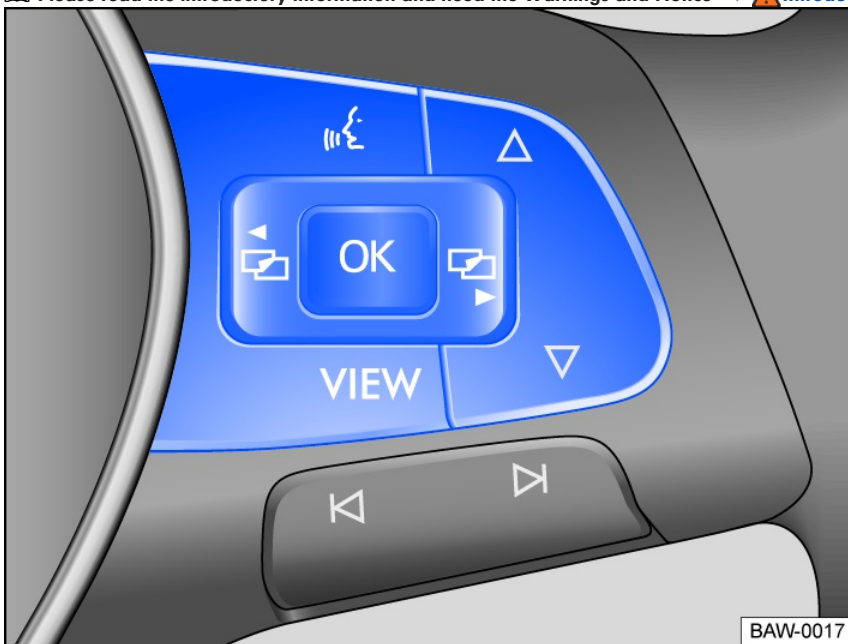

Fig. 17 Right side of the multifunction steering wheel: buttons for operating the menus and information displays in the instrument cluster
Menus cannot be accessed when a priority 1 warning message is displayed ⇒ *Warning and information texts.* Some warning messages can be confirmed and dismissed with the **OK** button on the multifunction steering wheel *fig. 17.*
- If a message or the vehicle pictogram is displayed, press the **OK** *fig. 17* button several times if necessary.
- To display a menu and to scroll through the menu, press the **◀** or **▶** button *fig. 17.*
- To retrieve the displayed menu or the information display, press the **OK** button *fig. 17* or wait a few seconds until the menu or the information display opens automatically.
- Press the **▲** or **▼** arrow buttons *fig. 17* in the displayed menu until the desired menu item is marked. The item is marked with a frame around it.
- Press the  fig. 17 button to apply these settings. A “checkmark” indicates if the function or system is activated.
- Press the  or  button fig. 17.
- You can switch between the current and previous menu using the  button fig. 17.
- You can use the  button fig. 17 to switch between the classic display of dials, the large platform without information profiles, and the enhanced view with highlighted information profiles. The classic display shows the large dials on the right and left side, and the selected information profile is displayed in the center. Press and hold the  button to select from the preset information profiles in the list.